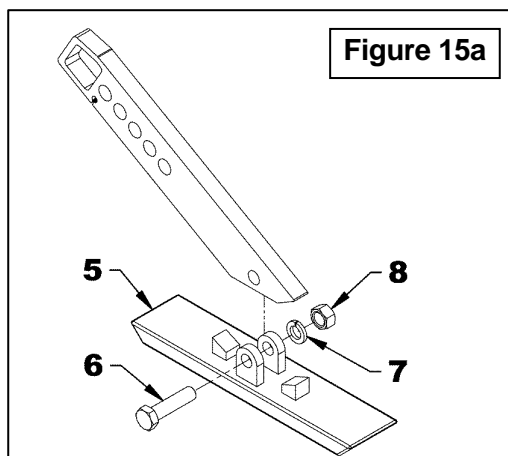

Figure 15a
- Figure 15a:** Remove the steel skid shoe base (item 5) by removing the 3/4"NC x 3" bolt, lockwasher and 3/4" nut (items 6-7-8).